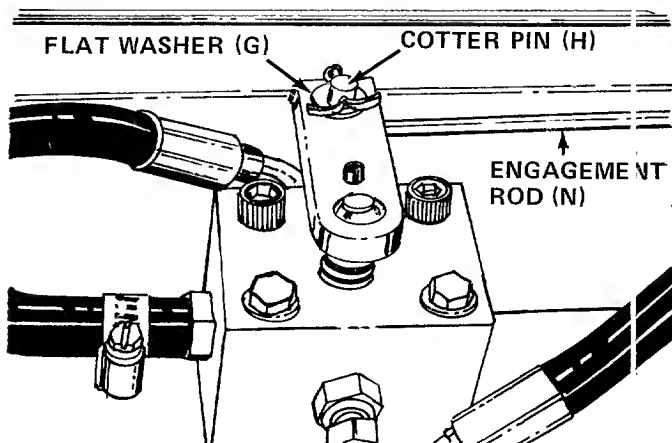

FIGURE 6
7. Hook the bent end of the engagement rod (N) into the lever on top of the pump. See figure 6.
8. Next, place one flat washer (G) over the rod. Insert the cotter pin (H) into the hole in the rod and secure by bending the ends of the cotter pin in opposite directions.